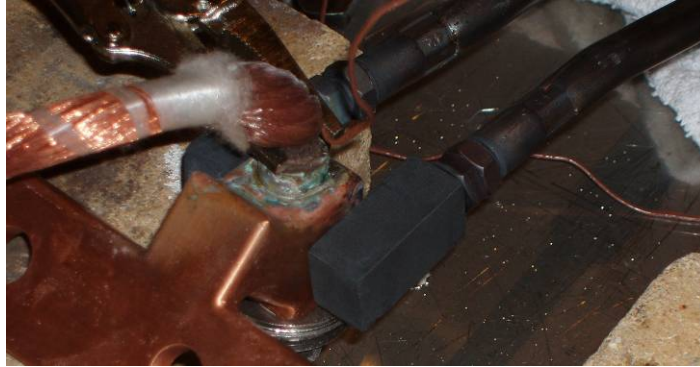

Figure 42- Soldering Connector
- Begin feeding the solder from the conductor end of the joint. [Point A] Figure 42- Soldering Connector